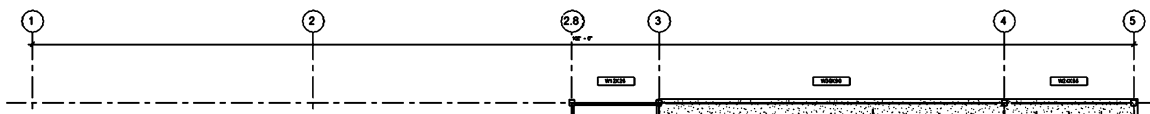

FIGURE 8-6.2 Overall dimension placed
5. Select a spot just below the grid bubbles to locate the string of dimensions (pick 3 of 3). See Figure 8-6.2.